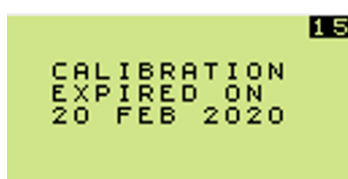

Figure 8: Calibration Due Date
3. Cal Due enabled - if overdue, message is displayed as shown in Figure 8: Calibration Due Date, but after five seconds, the monitor warm-up continues automatically.